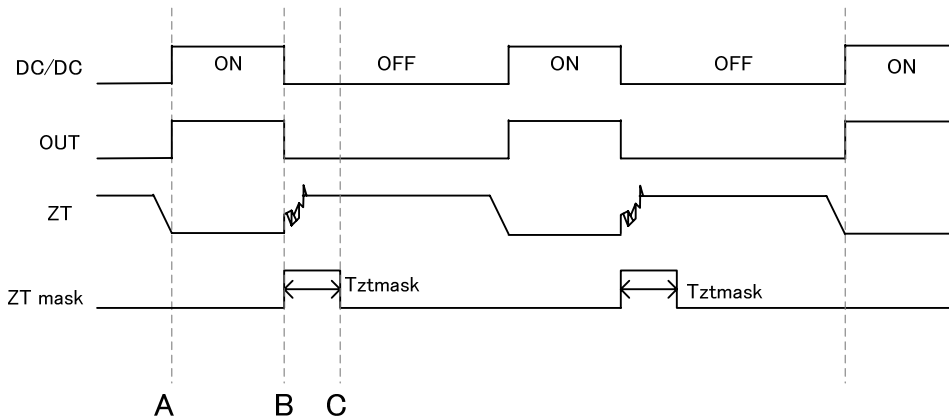

Figure 18. ZT trigger mask function waveform
**(6) ZT trigger mask function (Figure 18.)**